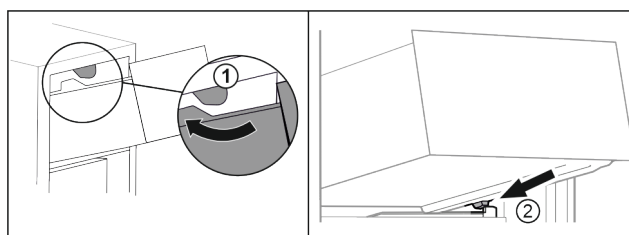

Fig. 93
- Guide drawer around the upper stoppers. Fig. 93 (1)
- Place drawer at an angle behind the lower stoppers onto moulded rib. Fig. 93 (2)